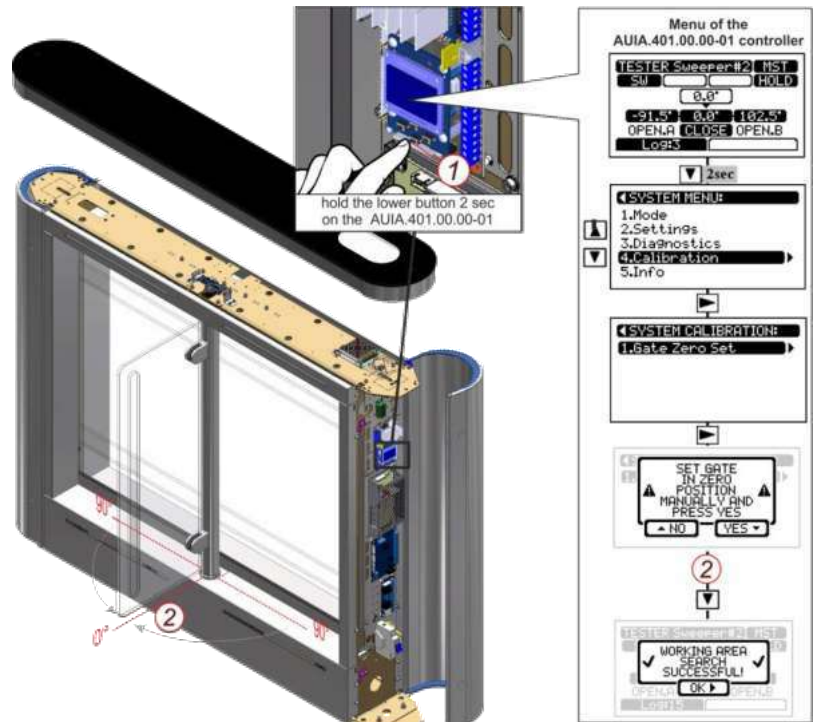

Fig.25 – Adjustment of the leaf zero position using the menu of controller AUIA.401.00.00-01
**Option II (with AUIA.401.00.00-01 fig.25)**
- Run the menu holding for 2 seconds the lower button (I) on the controller AUIA.401.00.00-01 and choose “Calibration”->”GateZeroSet” controller. If you request a calibration procedure, the turnstile will go to “OFF” mode.
- Set the zero point of both leaves of Master and Slave cabinets manually (CLOSE position (3))
- Confirm the start of working area search procedure by pressing “YES” (2) on the AUIA.401.00.00-01 controller display.
- The controller will save the user-set point as zero (CLOSE position (2)) and automatically determine the minimum and maximum of working area.